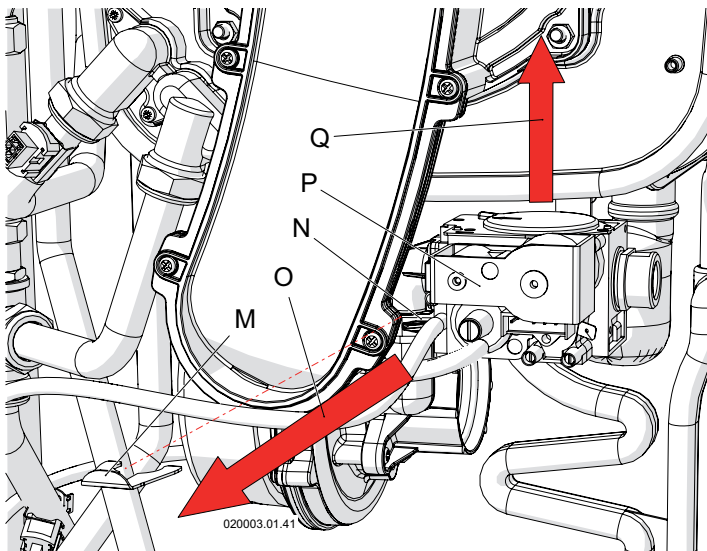

Figure 6-4 - Removing the gas valve
- 15 - remove the clamping spring "M" from the seat "N" releasing the valve "P" (See figure 6-4);
18. - remount the gas valve (see figure 6-4, detail "P"), making sure to reposition the spring "M".